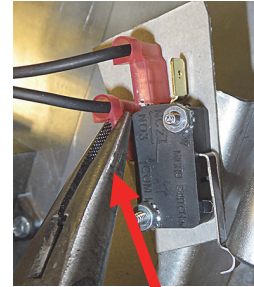

Figure 10
11. Using needle nose pliers remove the wire from the COM terminal on the top right switch, as viewed from the rear of the fryer (see Figure 10).
12. Using needle nose pliers remove the wire from the COM terminal on the top left switch, as viewed from the rear of the fryer (see Figure 10).